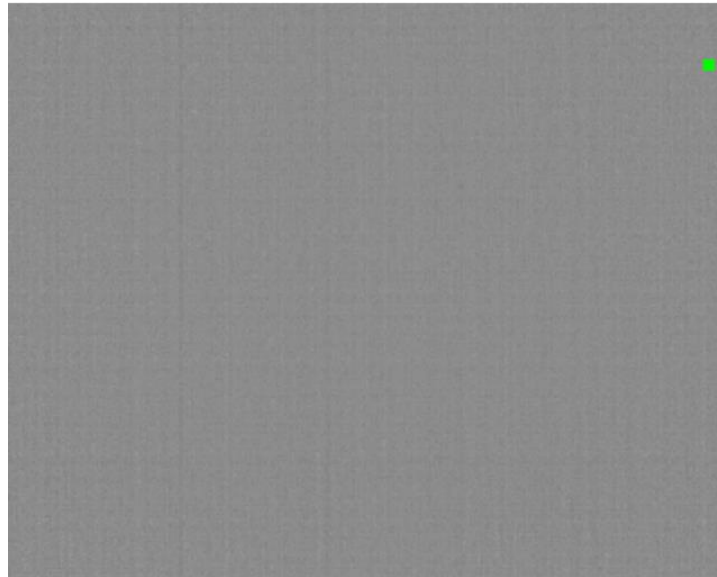

Figure 35: “FFC Imminent / In Progress” Symbol (Factory-Default); upper right corner
- **FFC In Progress:** By factory default, the symbol shown in Figure 35 is displayed whenever the FFC State = "FFC Imminent" or "FFC in Progress". (See Section 7.9 for full description of the FFC states.)